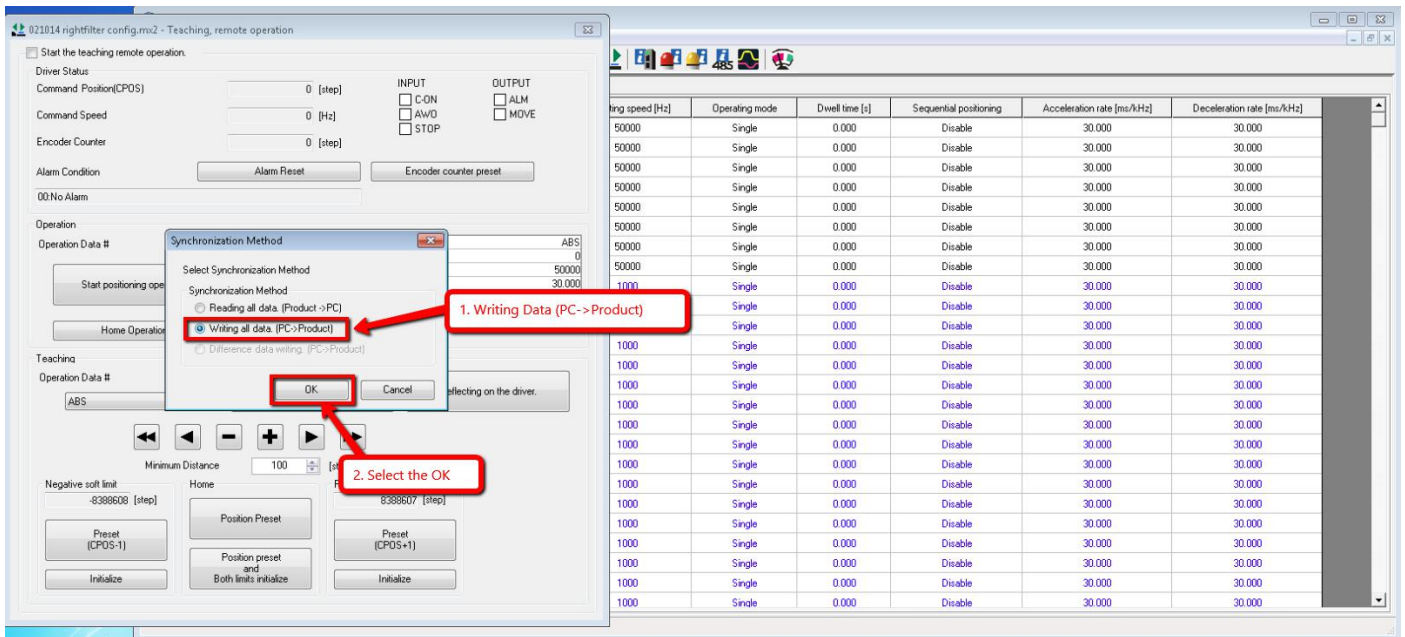
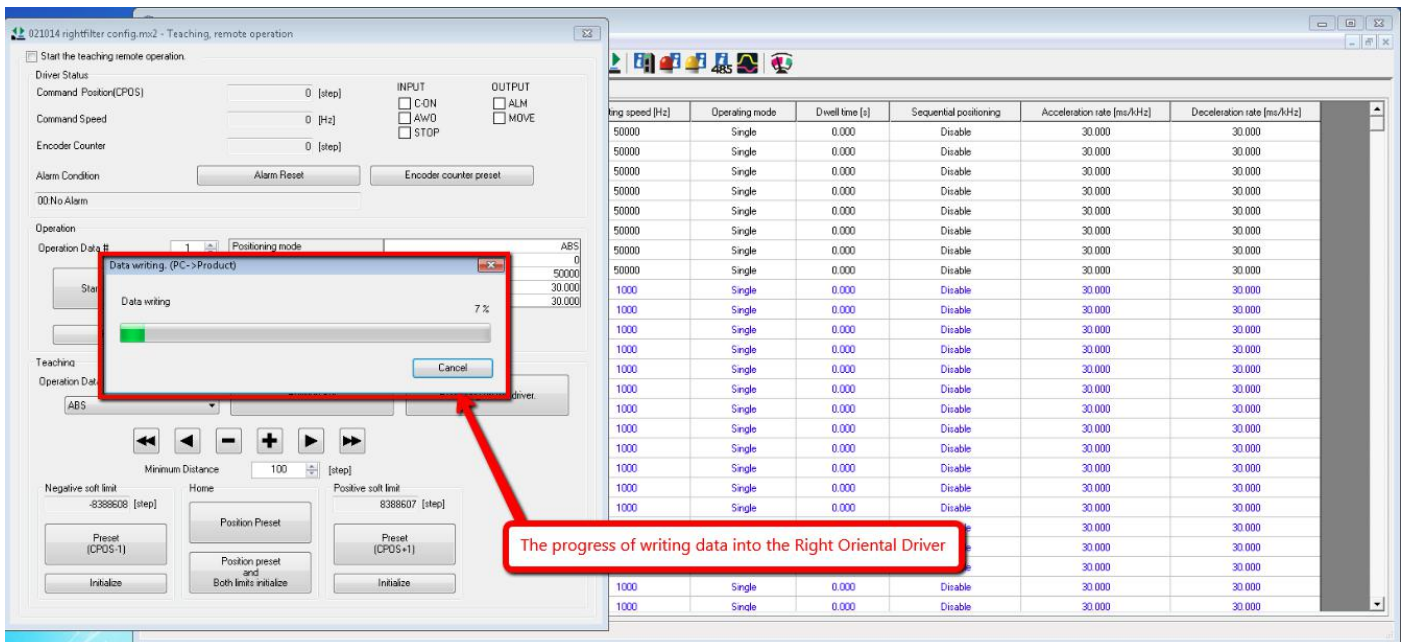

Figure 18 Writing Process
Figure 19 Uploading Process
16. Select the Writing all data (PC->Product) as shown in the Figure 18 then press OK. Wait until it finish writing the data into the Right Oriental motor driver as shown in the Figure 19.